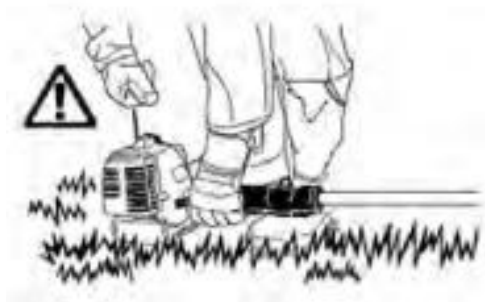

Fig.15
- 4) Slowly pull the recoil starter until you feel it engage and then pull it quickly. till it starts. (fig.15)